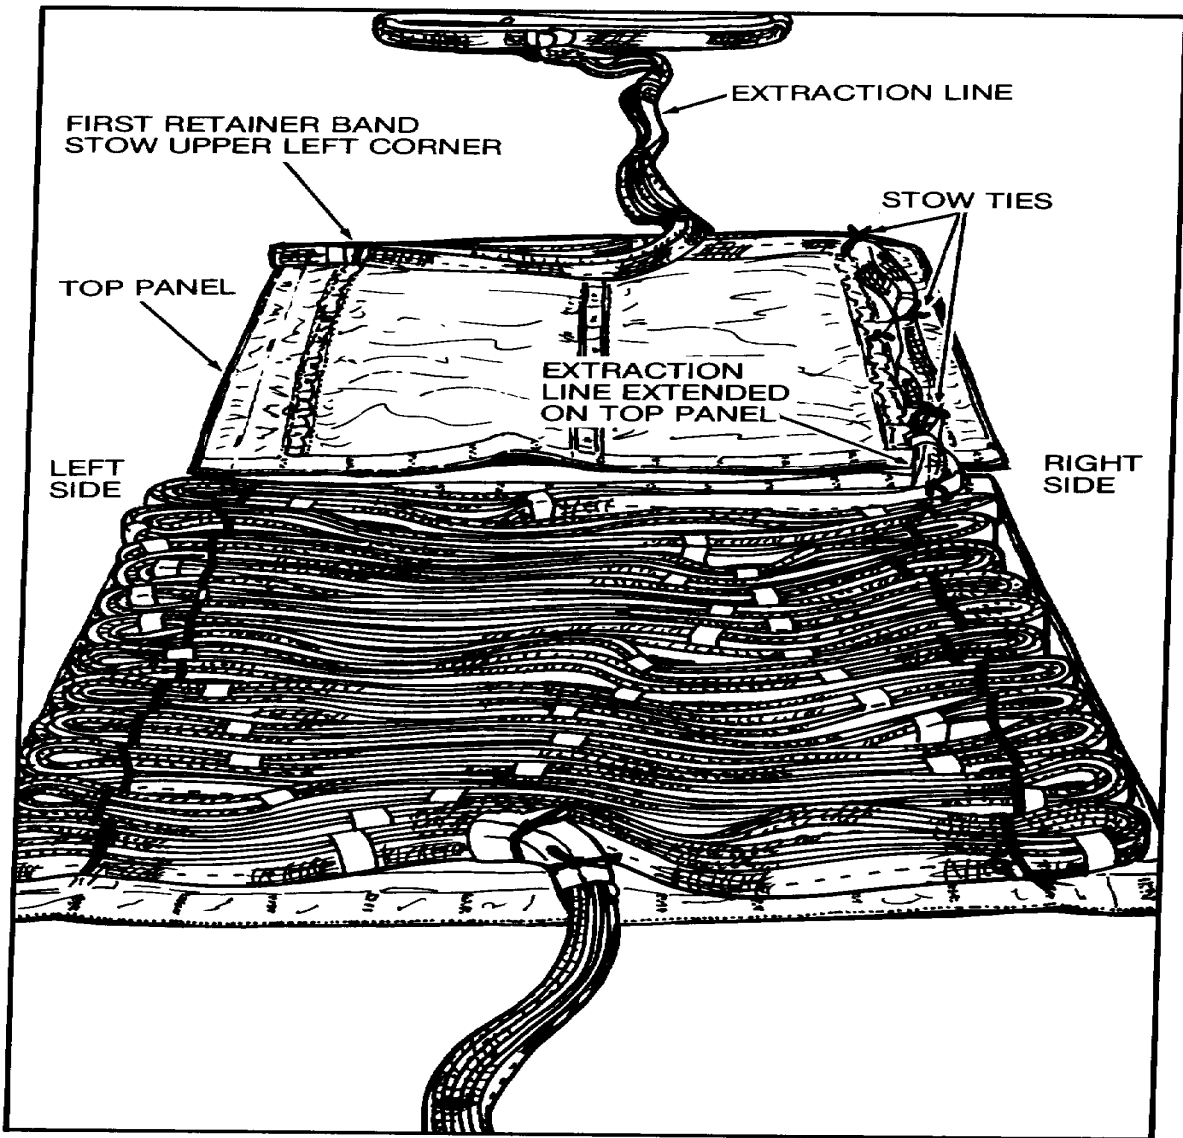

Figure 6. Extraction Line Extended to Top Panel with First Stow.
- f. Place top panel back on pack table with stow loops facing up and stow loops running lengthwise with the table. Position the top panel at upper end of bottom panel (figure 6).